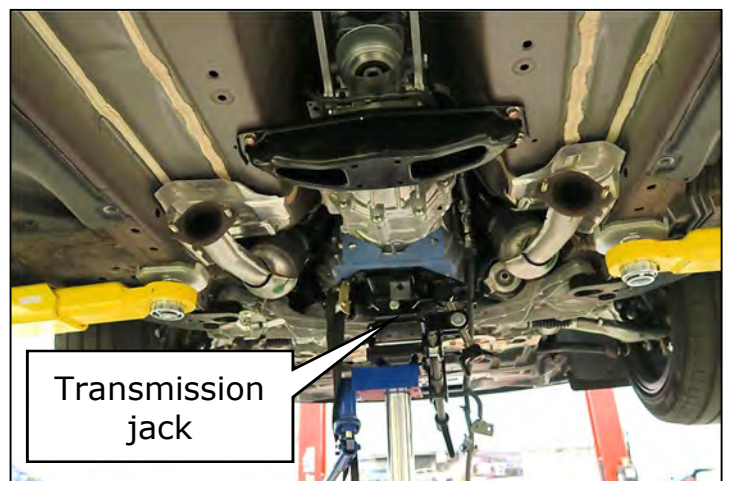

Figure 53
54. Position a suitable transmission jack under the transmission and secure it with a suitable strap. (Figure 53)